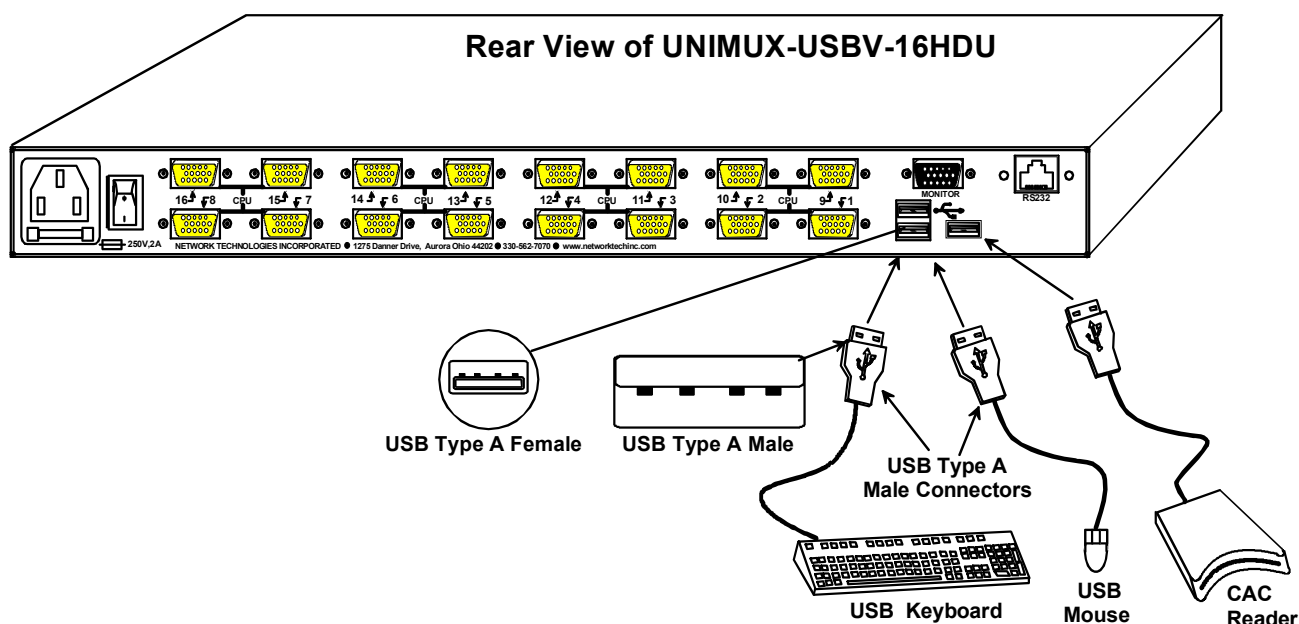

Figure 5- Install user devices (mouse and keyboard)
- Connect the user devices to the USB type A female ports labeled with the USB symbol () on the rear of the UNIMUX switch (see Figure 5).